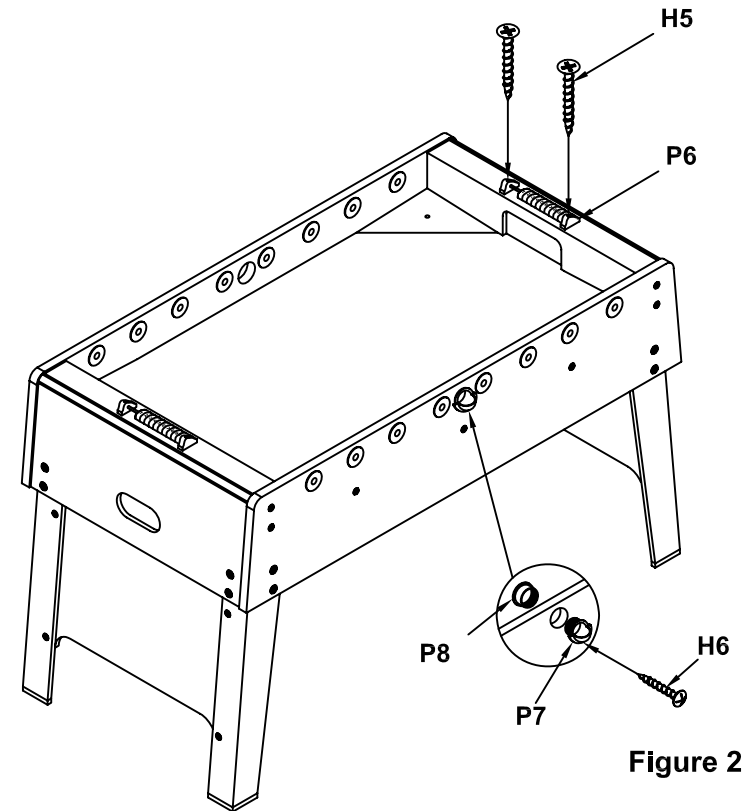

Figure 2
2. Attach ball entry cups **P7** and ball entry cup sockets **P8** to the side panels with screws **H6** as shown in **Figure 2**.
3. Attach the two sets of slide scorer **P6** to the end of table with screws **H5**. See **Figure 2**.